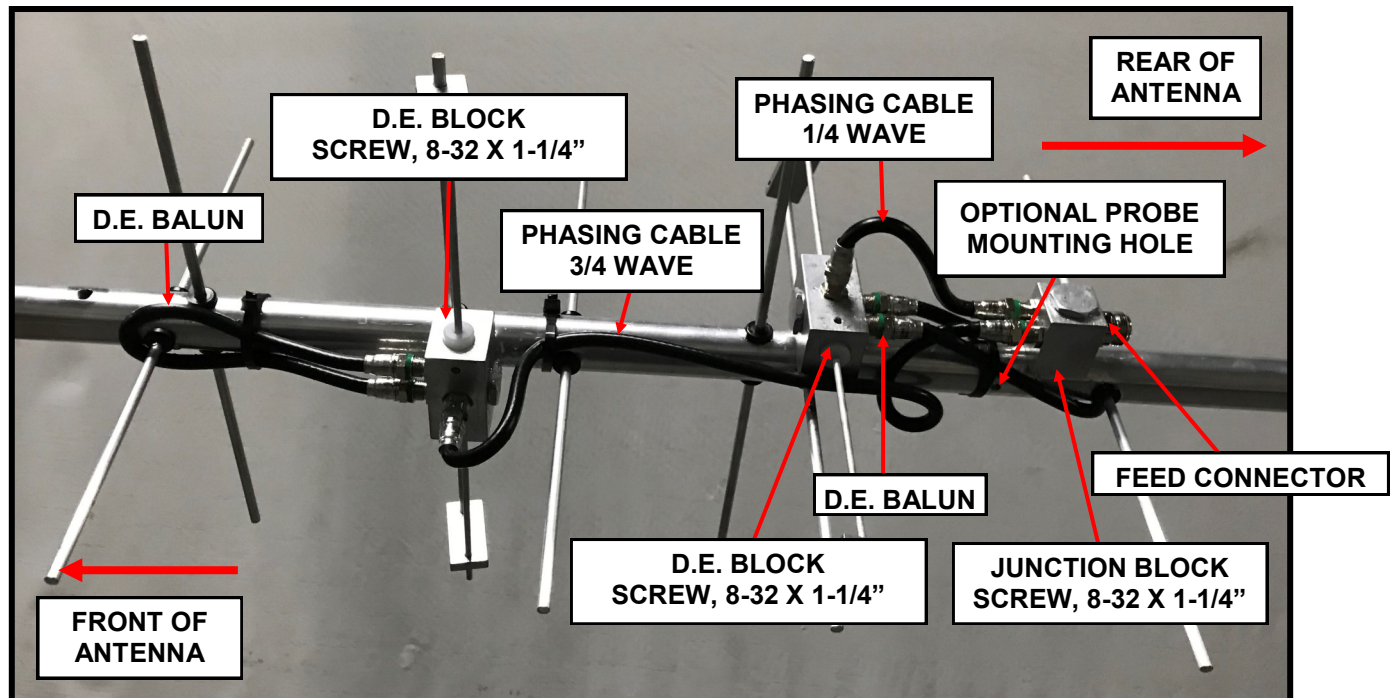

FIG. 1
5. Mount the **HORIZONTAL DRIVEN ELEMENT BLOCK** or **POLARITY SWITCH** to the **TOP** of the boom using a single 8-32 X 1-1/4" screw. Refer to **FIG. 1 and 2** for orientation and placement.
INSTALLATION OF THE VERTICAL DRIVEN ELEMENT BLOCK DETERMINES THE CIRCULARITY OF THIS ANTENNA. THE ORIENTATION OF THE BLOCK FOR RHC IS SHOWN ON THE DIMENSION SHEET. REFER TO FIG. 1 AND 2 FOR ORIENTATION AND PLACEMENT.
8. Attach Baluns and Phasing lines to the Driven Element Blocks and Junction Block as shown in **FIG. 1 and 2**. Tighten the connectors **gently** using a 7/16" end wrench. A lot of torque is unnecessary. Depending on model and polarity, the Vertical balun may loop around another element. This is normal. Form balun coax until it is close to the boom and secure with a nylon cable tie. Also secure the other balun and the matching / phasing harness coax with cable ties. Ties should be snug but not crushing or kinking the coax.